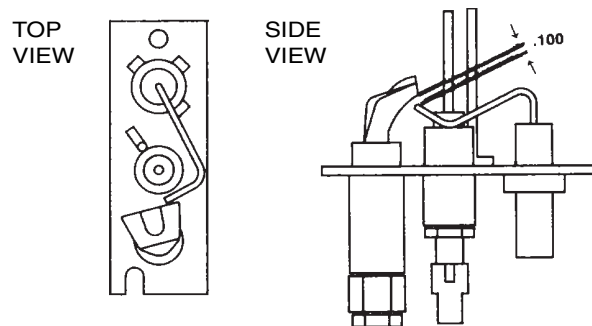

Figure 37. Pilot Assembly Spark Gap
- Check the spark gap (see Figure 37), which should be maintained to 0.100 inch (2.5 mm).
- Verify that pilot spark gap (see **Figure 37**) is approximately 0.100 inch (2.5 mm).